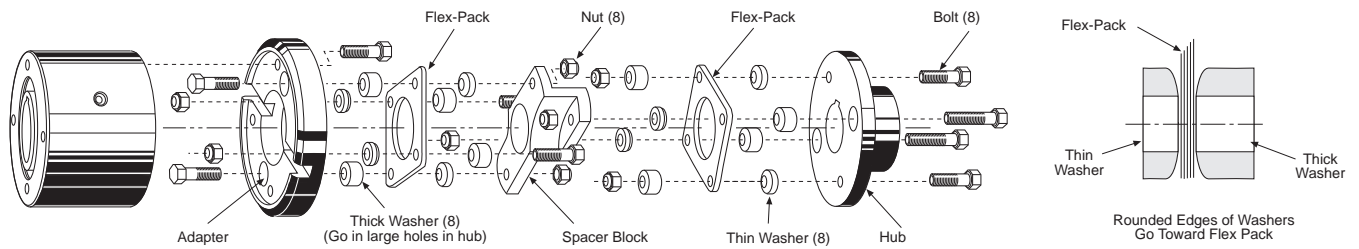

Figure 6
1. Install the flex packs, washers and spacer block assembly per Figure 6. Do not force bolts into holes.